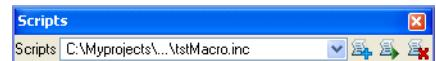

Figure 15-4 Script file added to Scripts toolbar
- Figure 15-4 shows an example: